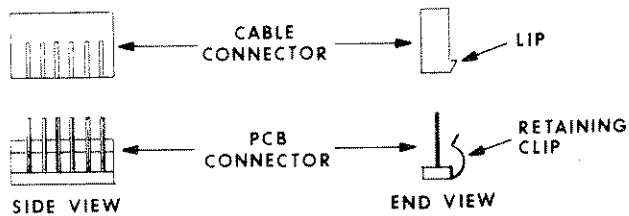

Figure 5-3. Connector Alignment
**PRINTED-CIRCUIT BOARD CONNECTORS** — When reinstalling a cable connector on a printed-circuit board, be sure the connector is properly aligned with the board connector pins and that the connector faces the proper direction (see Figure 5-3).